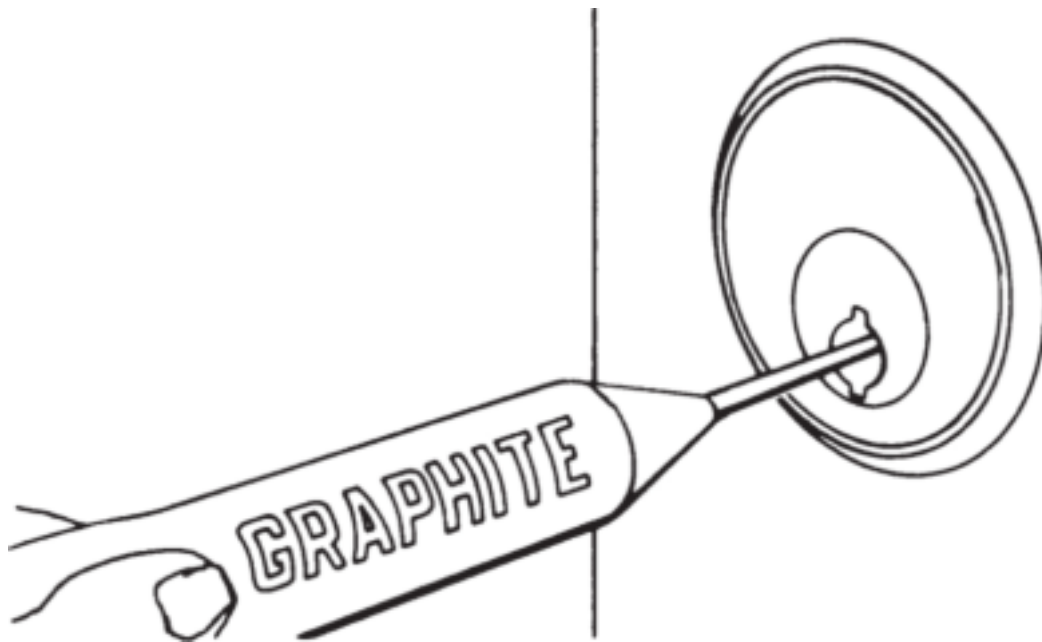

**Figure 13.32** Lubricating keyway.
**Problem 8: Key works hard in the cylinder.** Lubricate the cylinder with powdered graphite or place graphite on the key and move it back and forth slowly in the keyway. Never use any petroleum lubricants (Fig. 13.32 ).